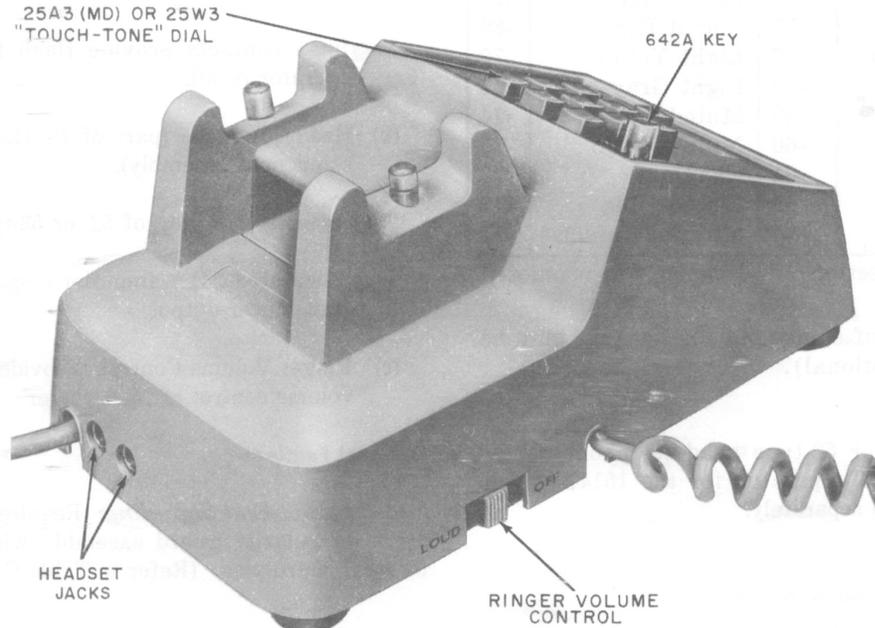

Fig. 1—1514B Telephone Set
2.07 The 1514B telephone set (Fig. 1) is a single line desk set providing handset or headset operation, operator recall (headset operation), and AC or DC operated buzzer (optional),